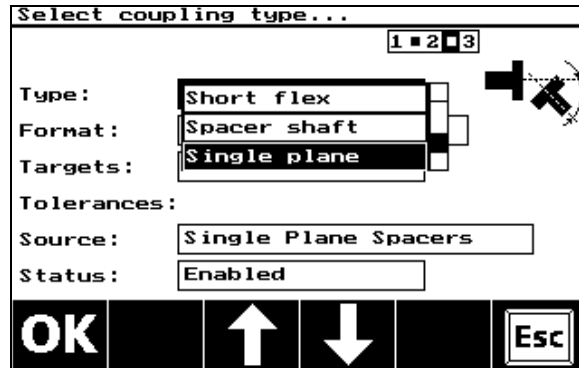

Figure A9
- 5) With “Type” highlighted press , then use the  key to select “Single plane” and press  (see Figure A9.) (This is the correct type to use since a spacer shaft only has a single flex plane coupling at either end; also, this will minimize the number of dimensions you have to input later. “Format” is now highlighted. You may now proceed to edit in like manner the results display format (either “angle” or “gap”), as well as target specifications and selection of the appropriate tolerance table to use.
*Note 1: Neither the standard “Short Flex” nor “Spacer” tolerance tables should be selected, since you are working with single plane couplings that actually represent the individual single flex couplings at either end of your spacer shaft. In order to have the proper tolerance values active, you must first create a special tolerance table with the proper values using the Tolerance Editor software utility in your PC, then upload that table to your ROTALIGN® PRO. Figure A9 shows such a custom tolerance table called “Single Plane Spacers” already loaded and selected for use. (The Tolerance Editor software utility is available free of charge from our website: [www.ludeca.com](http://www.ludeca.com) .)*